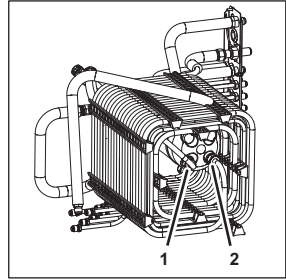

Figure 75
16. Disconnect the soda cooling line from the coupling (Figure 75/2).
17. Disconnect the soda water line from the coupling (Figure 75/1).
22. Attach the soda water line to the coupling (Figure 75/1).
23. Attach the soda cooling line to the coupling (Figure 75/2).